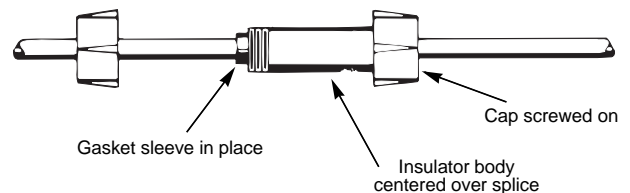

Figure 9 – Tighten end caps
- Center insulator body over splice and slide gasket sleeves into body as far as they will go. Screw caps onto insulator body (Fig. 9) and tighten by hand for a strong, waterproof splice.